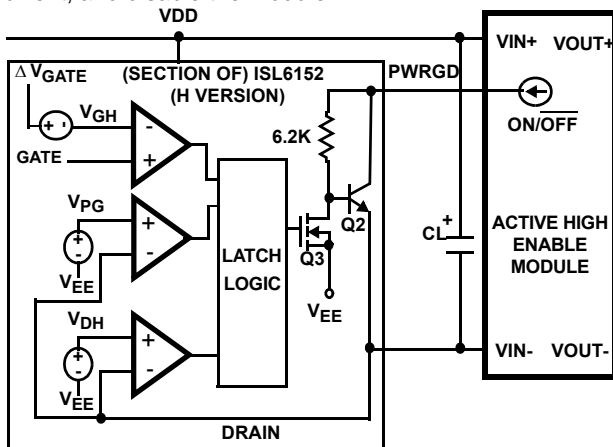

FIGURE 37. ACTIVE HIGH ENABLE MODULE
**ISL6152** (H version; Figure 37): Under normal conditions (DRAIN voltage -  $V_{EE} < V_{PG}$ , and  $\Delta V_{GATE} - V_{GATE} < V_{GH}$ ), the Q3 DMOS will be on, shorting the bottom of the internal resistor to  $V_{EE}$ , turning Q2 off. If the pull-up current from the external module is high enough, the voltage drop across the 6.2kΩ resistor will look like a logic high (relative to DRAIN). Note that the module is only referenced to DRAIN, not  $V_{EE}$